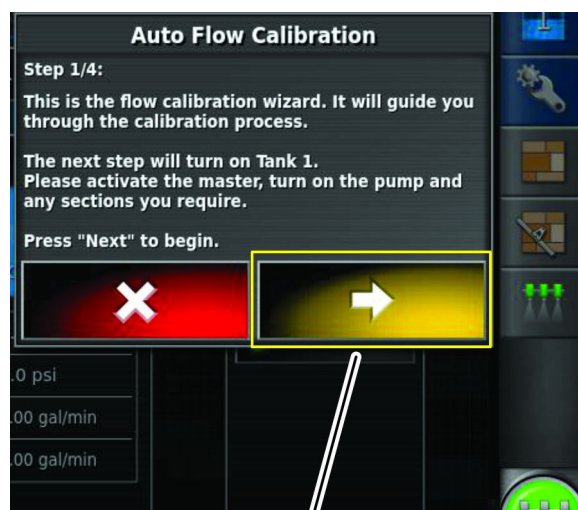

Figure 169
- In step 1 of 4 of the auto flow calibration wizard, press the next button (Figure 169).